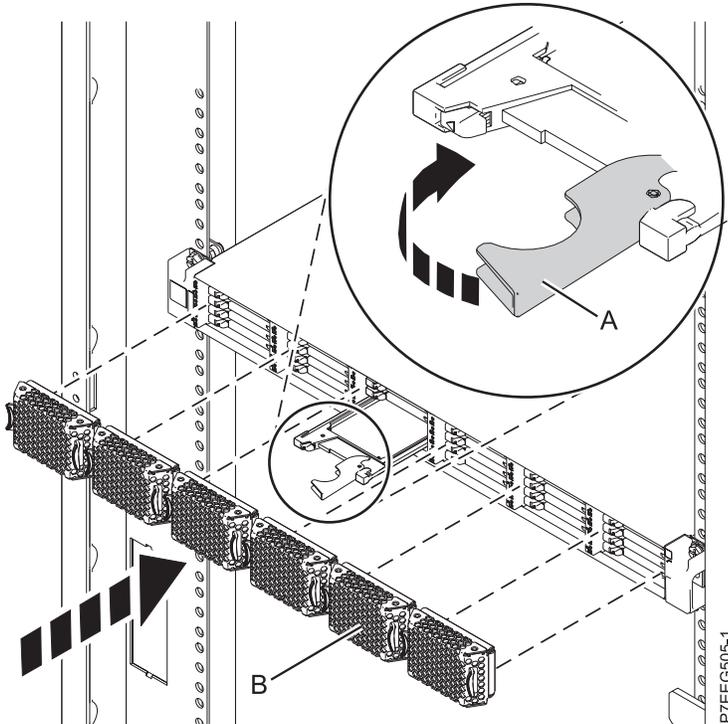

Figure 36. Replacing a solid-state drive in the ED/R1 PCIe storage enclosure.
3. Rotate the handle (A) to the locked position, as shown in Figure 36 on page 58.
4. Install the bezel (B).